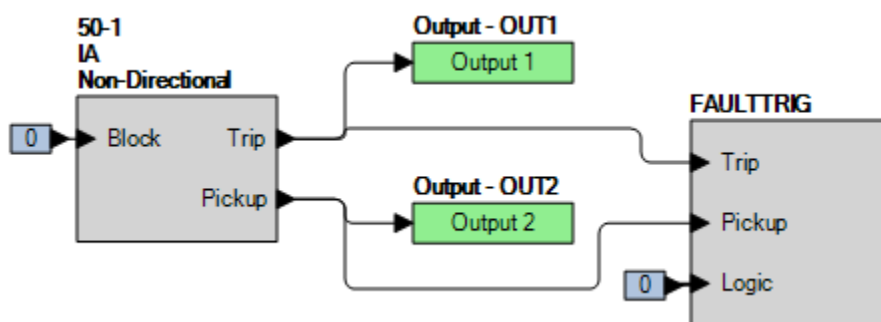

Figure 63-1. BESTlogicPlus Settings (Phase Mode)
Step 2: Use BESTCOMSP*lus* to configure the BESTlogic*Plus* programmable logic shown in Figure 63-1.
- Step 4: Prepare to monitor the 50-1 function operation. Operation can be verified by monitoring OUT2 (see Figure 63-1).